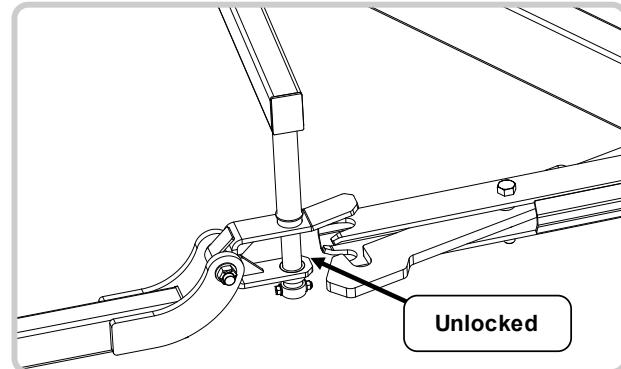

FIGURE 8
2. Lift up the wings by activating the Yellow hydraulic remote. Ensure the auto fold lock opens as the harrows are lifted to the raised position (fig. 8).